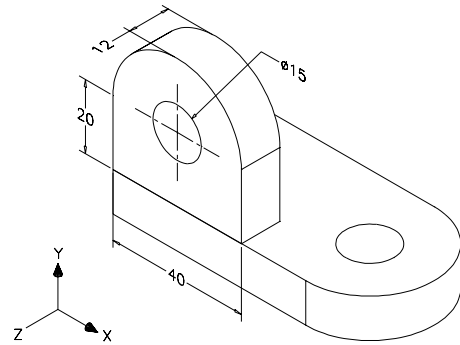

Figure 27-20 Model after creating the next object and moving it
5. Create the object by using the **REGION**, **SUBTRACT**, and **EXTRUDE** commands. The resulting object is shown in Figure 27-20.